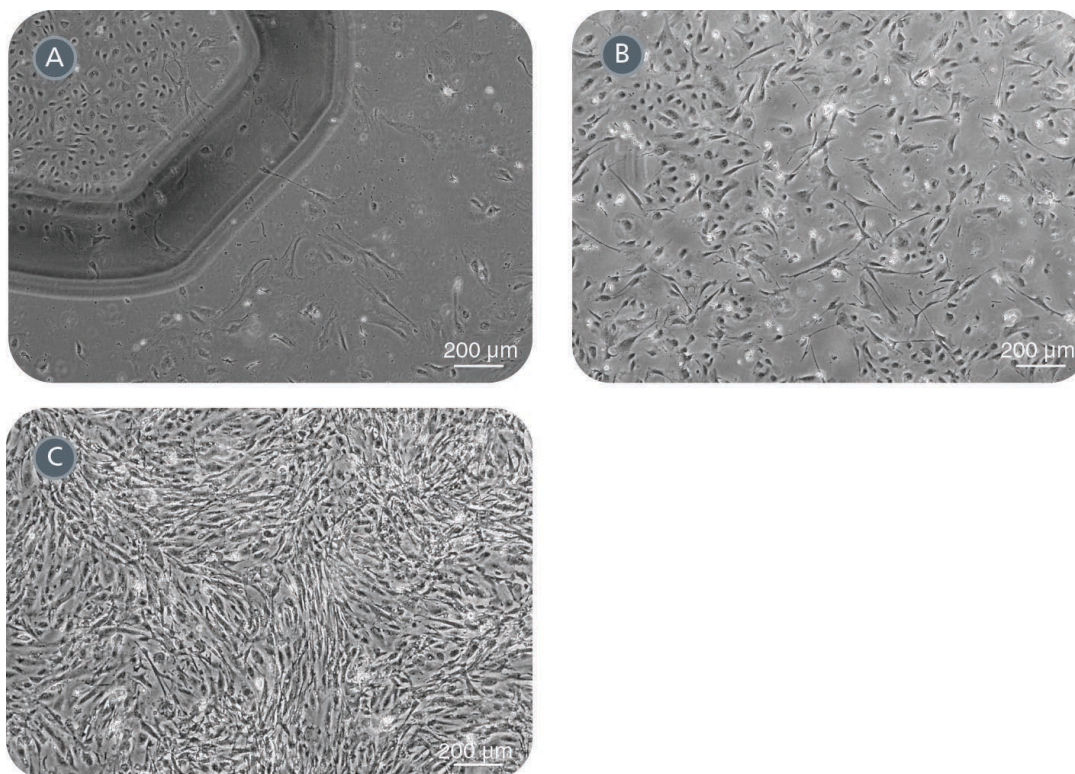

Figure 2. Progression of MSC Contamination
10. Periodically monitor the cultures for mesenchymal stem and progenitor cell (MSC) contamination. Cells within MSC clusters are thin, elongated, spiky, and highly migratory. Initially, the MSCs may appear loosely packed, but they can quickly overtake the ECFCs. If MSC contamination occurs, ECFCs should be subcultured into new culture vessels (using cloning cylinders; see section 5.2). Refer to Figure 2 for images of MSC contamination.